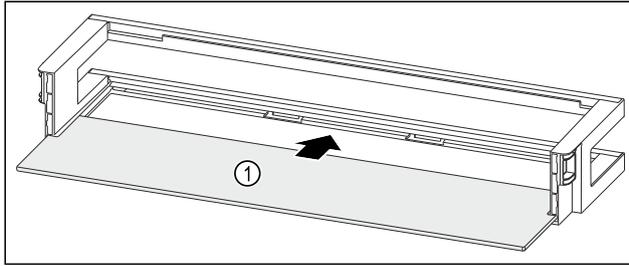

Fig. 87 Door rack with shelf
- ▶ Push the shelf Fig. 87 (1) into the side recesses.